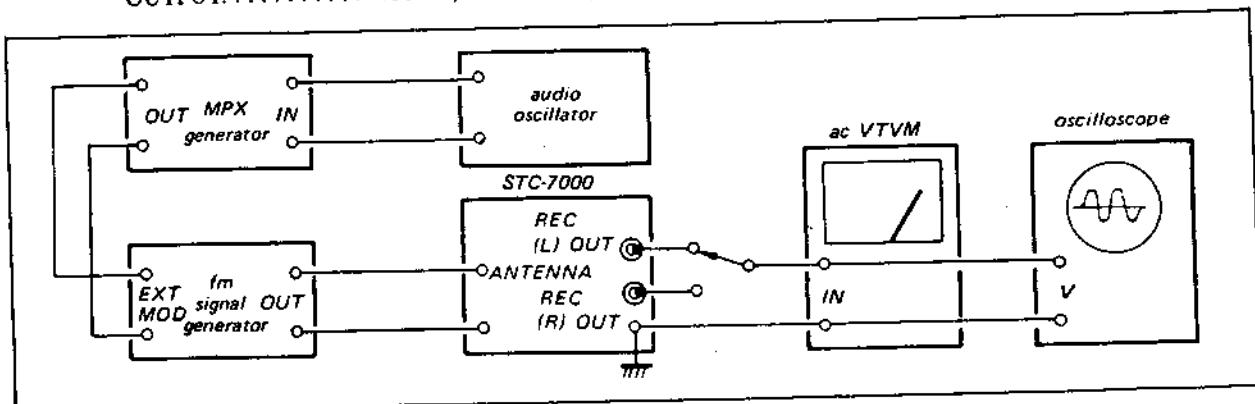

Fig. 3-5. Fm stereo separation adjustment test setup
1. Connect the equipment as shown in Fig. 3-5. Set the fm signal-generator's control as follows:
- With the equipment connected as shown in Fig. 3-5, set the MPX stereo generator controls as follows.